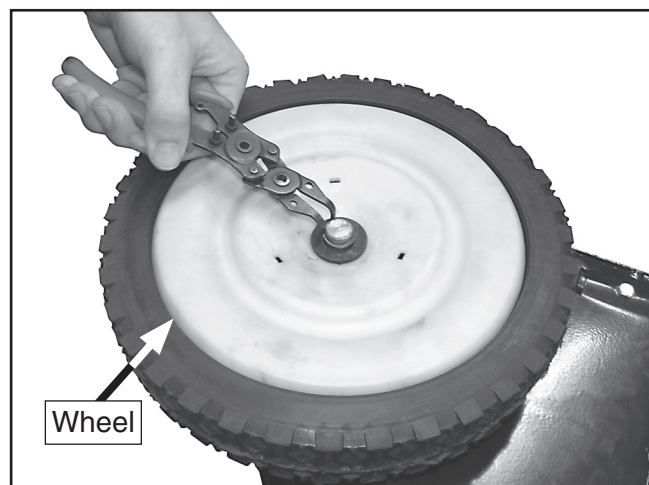

Figure 11. Retaining clip removal.
1. Remove the dust cover and the retaining clip holding the wheel, then remove the wheel (**Figures 11 and 12**).